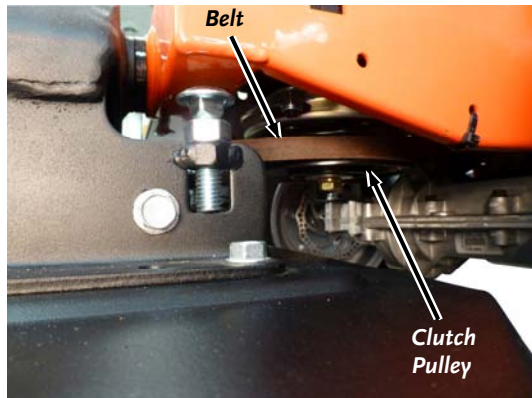

Figure 6
5. Wrap the Belt around the Clutch Pulley under the Power Unit (**Figure 6**).
4. Push the belt in toward the Power Unit and the belt will fall off the Clutch Pulley (**Figure 6**).